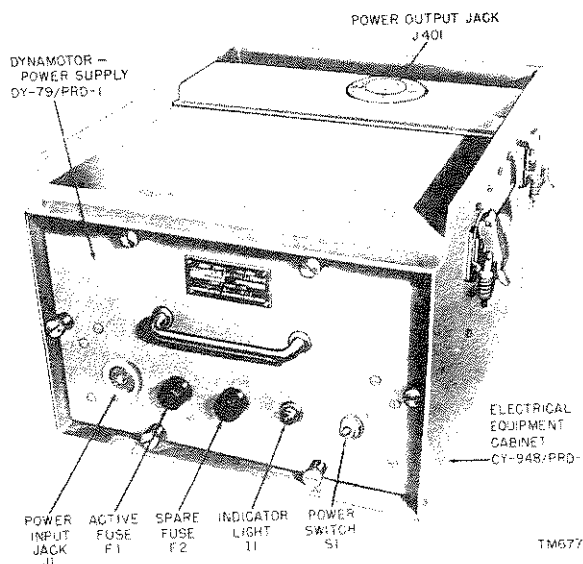
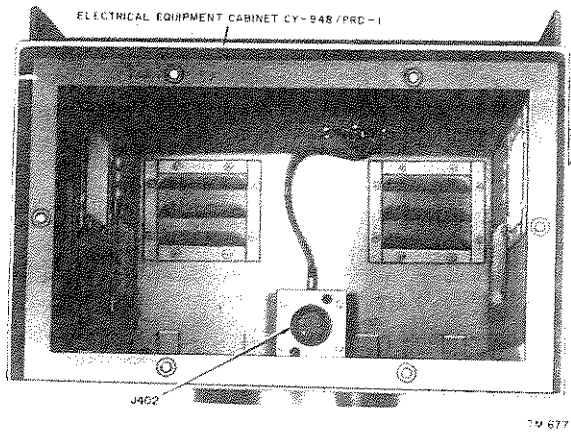
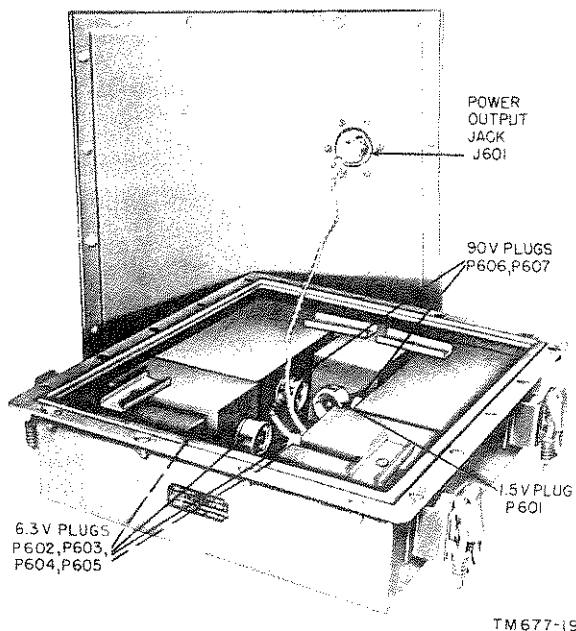
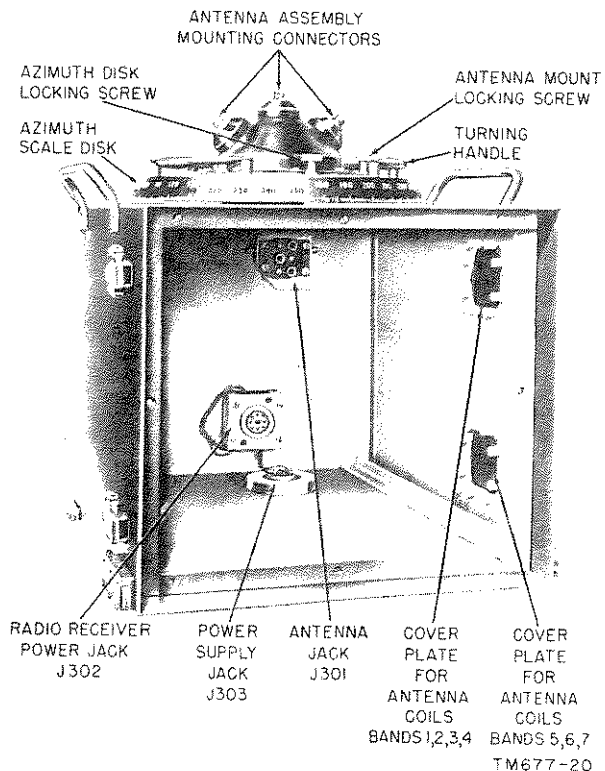

Figure 17. Dynamotor-Power Supply DY-79/PRD-1 in its cabinet.
Figure 18. Electrical Equipment Cabinet CY-948/PRD-1.
Figure 19. Battery Box CY-947/PRD-1, showing arrangement of dry batteries.
Figure 20. Electrical Equipment Cabinet CY-946/PRD-1, inside view showing female jacks.
c. At the rear of the top of the dynamotor cabinet (fig. 17) is power output jack J401. This jack is connected to J402 (fig. 18) inside the dynamotor cabinet. When the dynamotor chassis is placed into the dynamotor cabinet, J3 of the dynamotor connects to J402 in a similar manner to that used for connecting the receiver to its cabinet (par. 26). When the receiver is mounted on top of the dynamotor cabinet, power output jack J401 (on the dynamotor cabinet) engages with power supply jack J303 (on the receiver cabinet, fig. 20), thus furnishing power to the receiver. The two cabinets are fastened rigidly together by four spring-type catches. On the bottom of the dynamotor cabinet is a mounting plate for attaching the unit to Direction Finder Tripod MT-870/PRD-1.
a. If it is necessary to use the battery box (fig. 12) in place of the dynamotor-power supply, first install the dry batteries in the box. Refer to paragraph 15 for the number and type of batteries to be used and to figures 19 and 82 for the layout and connections to be made. *Make sure that the three output voltages of 1.5 volts, 6.3 volts, and 90*
volts are obtained at the proper terminals of the power supply output jack (J601, fig. 19).
c. At the rear top of the cabinet is the power output jack (J601). This is connected to the power supply jack (J303, fig. 20) of the receiver cabinet when the battery box is attached to the receiver cabinet.
power supply (or on top of the battery box, when used). Perform this step carefully so that the male power supply jack (J303) on the bottom of the receiver cabinet will engage with the female power output jack (J401, fig. 17) on top of the dynamotor cabinet, or with the female power output jack (J601, fig. 19) on top of the battery box.
e. The top of Radio Receiver R-395/PRD-1 has a male antenna jack (J101), and the rear has a power jack (J102) (fig. 22). When the receiver is installed in the cabinet, male jacks J101 and J102 engage female jacks J301 and J302 (fig. 20) respectively, thus automatically connecting the receiver to both the antenna and the power supply.
- (3) Connect J102 (fig. 22) on Radio Receiver R-395/PRD-1 to J601 (fig. 19) on Battery Box CY-947/PRD-1 (or J401 on Electrical Equipment Cabinet CY-948/PRD-1).